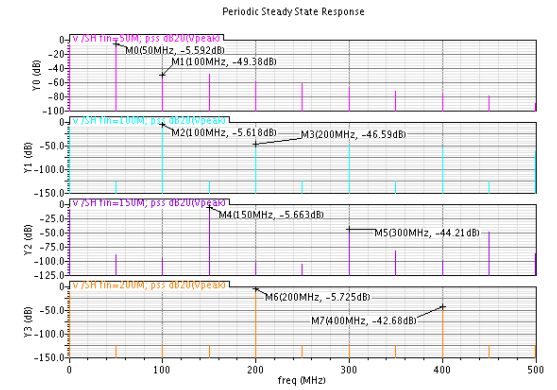

Fig. 9: Output spectrum with different input signal frequency.
5) *e*: The output signal spectrum with different input frequency (50 MHz per increment instead, input signal amplitude is 500 mV) are plotted in Fig. 9. It can be seen that when input frequency is 50 MHz, SDR is about 43.788 dB. When it increases up to 100 MHz, SDR drops to 41 dB, about 3 dB lower than its lower frequency. From this perspective, the large signal bandwidth is about 100 MHz.